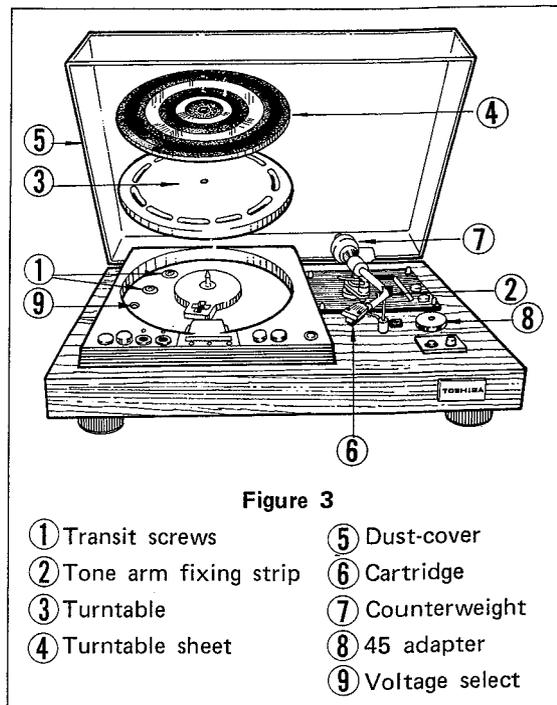

Figure 3
- a) Taking the player out of the packing box, remove two transit screws 1 which fix transformer and strip 2 which fixes arm. Next, take out turntable 3, turntable sheet 4, and dust cover 5 from another package. Then, assemble cartridge 6 and counter weight 7 to the tone arm which will be found in accessory box [figure 3].
- (1) AUX output: connects to AUX input of amplifier (in case that the cartridge is condenser cartridge).
- (2) MM output: connects to PHONO input of amplifier (in case that the cartridge is magnetic cartridge).